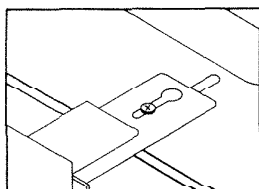

FIGURE 14
5. Slide one hinge toward inside of rough-in frame as far as possible and securely tighten the screw. Position and secure the second hinge. See Figure 14.